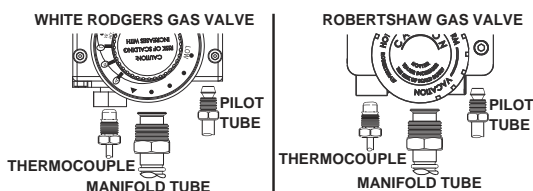

FIGURE 22.
6. Disconnect the thermocouple (right-hand thread), pilot tube, the igniter wire from the igniter button, the two connectors attached to the thermal switch, and manifold tube at the gas control valve/thermostat. (Figures 22 & 23.) **NOTE:** L.P. Gas systems use reverse (left-hand) threads on the manifold tube.
5. Disconnect the piezo igniter wire from the piezo igniter button. **NOTE:** There are two types of igniters. If you have the square igniter, slide the igniter bracket backwards away from the gas valve to remove it. If you have the round igniter, first remove the igniter from the bracket by depressing front and rear holding tabs and lift. Next remove igniter bracket from the gas valve. Disconnect the thermocouple, pilot tube, and manifold tube at the gas control valve/thermostat (Figure 22). **NOTE:** L.P. gas systems use reverse (left-hand) threads on the manifold tube.